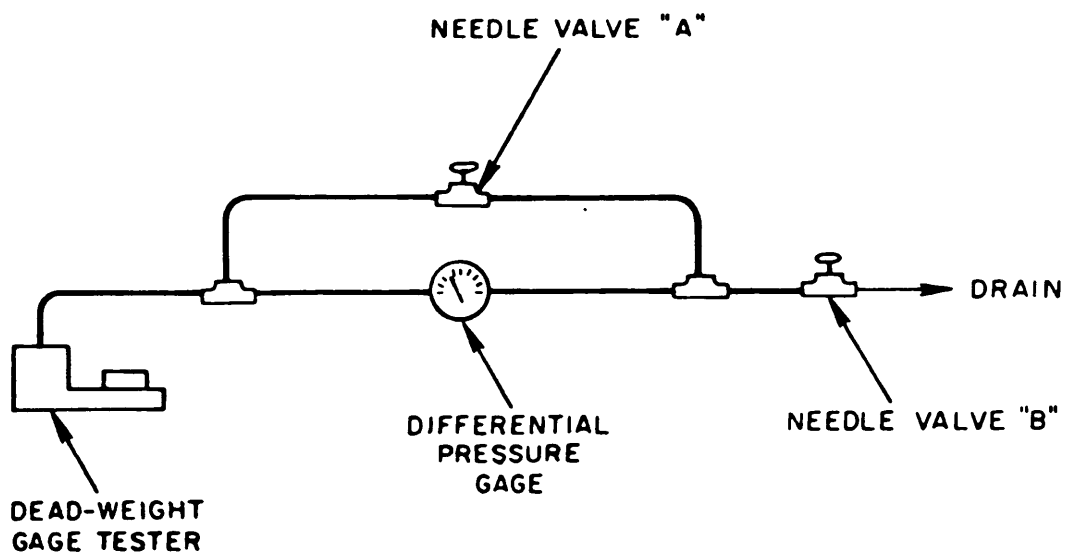

Figure 3-24. Differential Pressure Gage Tester
- (1) Attach "input" side of pressure gage to dead-eight gage tester shown in (figure 3-24).
- (2) Close valve "A".
- (3) Open valve "B".
- (4) Add weight equal to differential pressure from 0 to 150 psid (0-10.55 kg/cm²d) in increments of 10 psid (0.7 kg/cm²d).
- (5) Gage reading will be within $\pm 2\%$ on increasing dial readings.